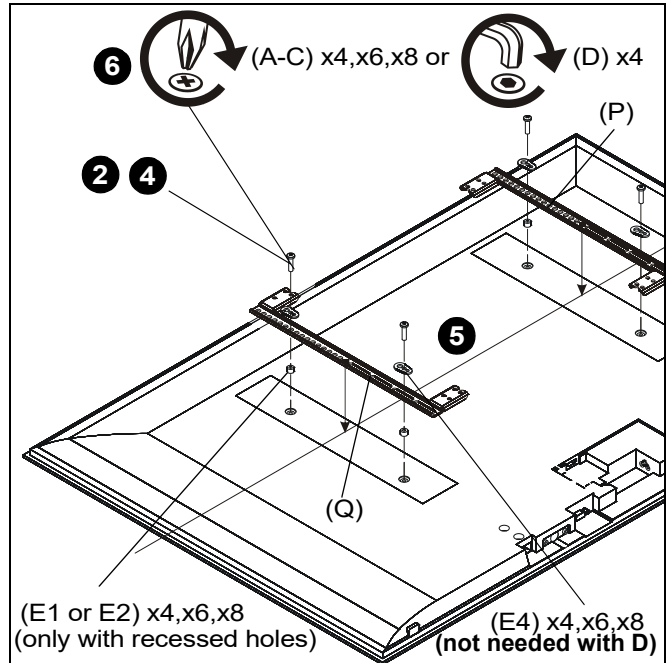

Figure 20
2. Select screw *diameter* by examining hardware (A-D) (4mm, 5mm, 6mm or 8mm) and comparing with mounting holes on display. (See Figure 20)
3. Select spacers: (See Figure 20)
4. Select screw *length*: (See Figure 20)
6. Using Phillips screwdriver, carefully install selected screws through universal washers (E4, if required), uprights (P and Q), and spacers (E1 or E2, if required), into display. (See Figure 20)